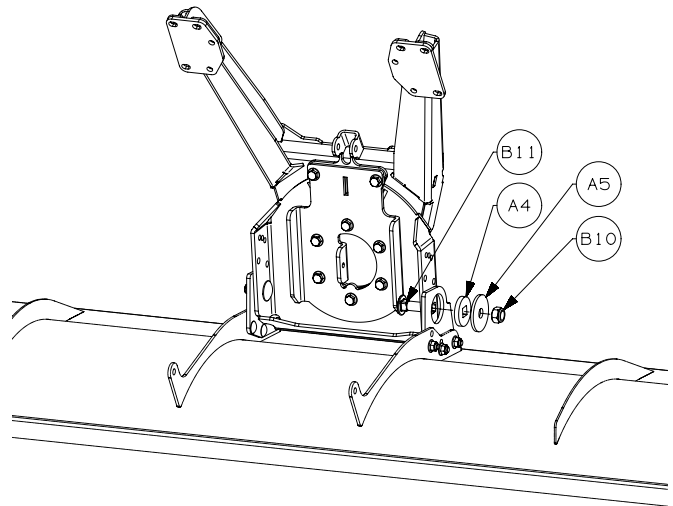

Figure 2
4. Secure Plow blade to Push tube assembly using fasteners (B10, B11), Bushing (A4) and Bushing Retainer (A5). Tighten to torque Specification listed. See figure 2.